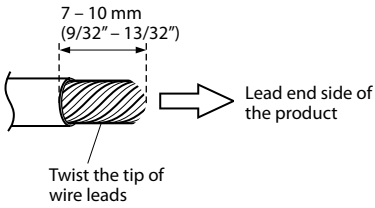

Fig. 5
2. Remove the insulation from the ends of the wire leads by about 7 – 10 mm (9/32" – 13/32"). (Fig. 5)